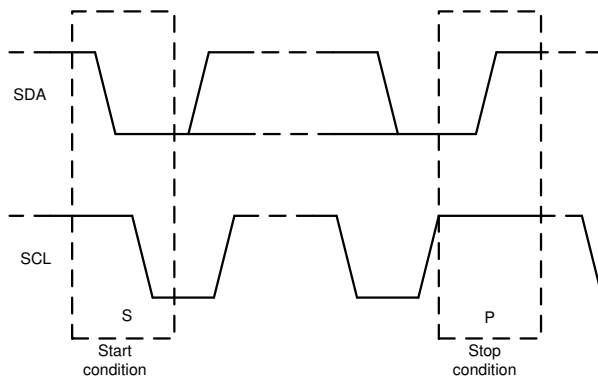

Figure 6-20. Start and Stop Conditions
1. The controller initiates data transfer by generating a start condition. Figure 6-20 shows that the start condition is when a high-to-low transition occurs on the SDA line while SCL is high. All I²C-compatible devices recognize a start condition.
4. Figure 6-20 shows that to signal the end of the data transfer, the controller generates a stop condition by pulling the SDA line from low-to-high while the SCL line is high. This action releases the bus and stops the communication link with the addressed target. All I²C-compatible devices recognize the stop condition. Upon receipt of a stop condition, the bus is released, and all target devices then wait for a start condition followed by a matching address.